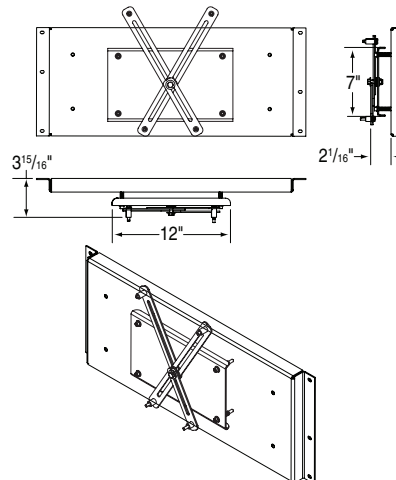
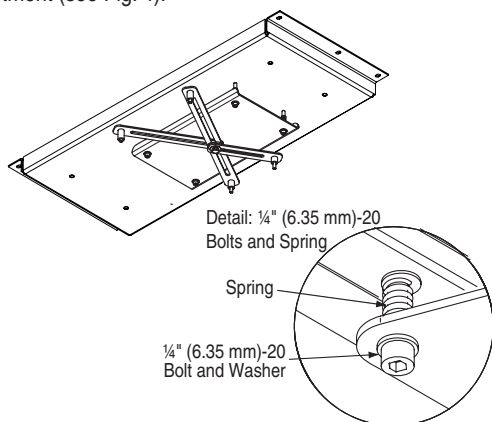

Figure 3
Figure 4
- ① Determine which size mounting bolts suit your projector, and set others aside. They are no longer required. If your projector has only three mounting holes, set aside one of the mounting arms (see Fig. 3).
- ② Attach the appropriate mounting arms to the rectangular plate via center bolt. Spread out the arms so each end is over one of the mounting holes.
- ③ Connect projector mounting arms.
- ④ Tighten the mounting bolts.
- ⑤ Use the 1/4" (6.35 mm)-20 bolts and springs which hold the rectangular plate to the bottom pan to adjust roll and tilt (the springs will ensure that the projector is held still during motion). The center 5/16" (8 mm) bolt provides Yaw adjustment (see Fig. 4).